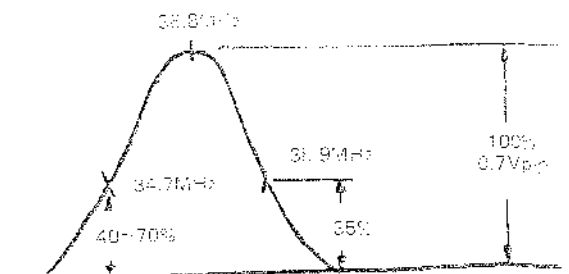

Fig. 19
1. Adjust the T12 and T101 to obtain a response curve in Fig. 19.